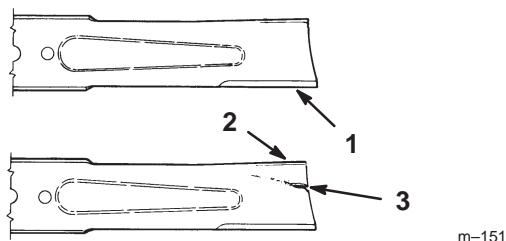

Figure 32
1. Inspect the cutting edges (Fig. 32). If the edges are not sharp or have nicks, remove and sharpen the blades; refer to Sharpening the Blades, page 29.
2. Inspect the blades, especially the curved area (Fig. 32). If you notice any damage, wear, or a slot forming in this area (item 3 in Fig. 32), immediately install a new blade.